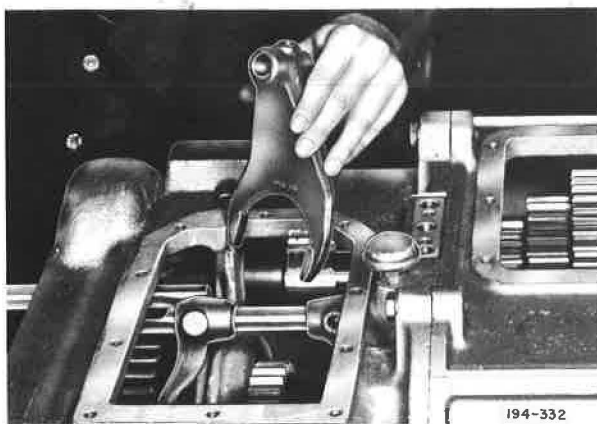

Figure 5-112. Installing Second and Third Speed Shifter Fork
28. Start second and third speed shifter rail through hole provided in rear of case. Engage second and third speed fork with second and third speed sliding clutch. See Figure 5-112. Advance rail through hub of fork and intermediate bore of case.